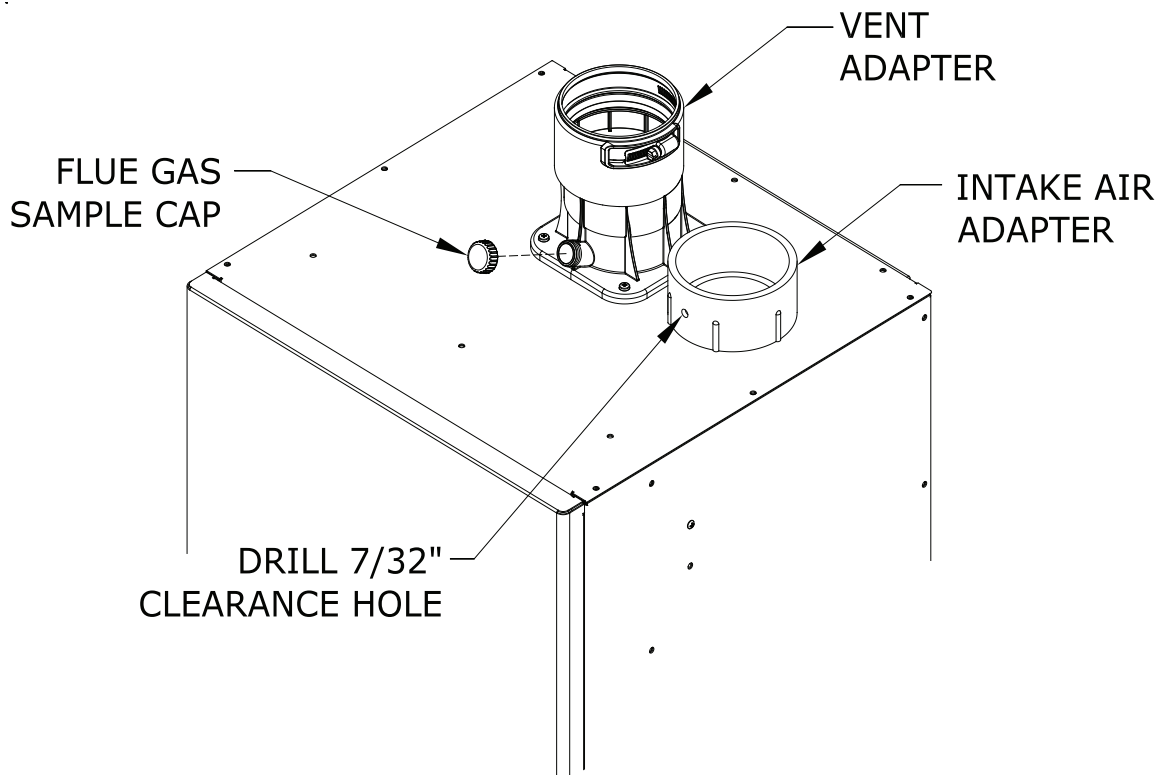

Figure 7.27: Vent Connections and Flue Gas Sample Cap Location
- **Never leave the boiler in operation without the gas sample cap in place (Figure 7.27).**
- a. The vent adaptor has three different inside diameters. The middle inside diameter accepts 3" nominal PolyPro (Figure 7.27). A locking band clamp in the adaptor prevents the vent pipe from coming out of the adaptor once it is installed and tightened. Lubricate the upper gasket in the vent adaptor with soapy water and insert the first piece of 3" PolyPro into the adaptor until it bottoms out. Tighten locking band clamp to secure vent pipe.